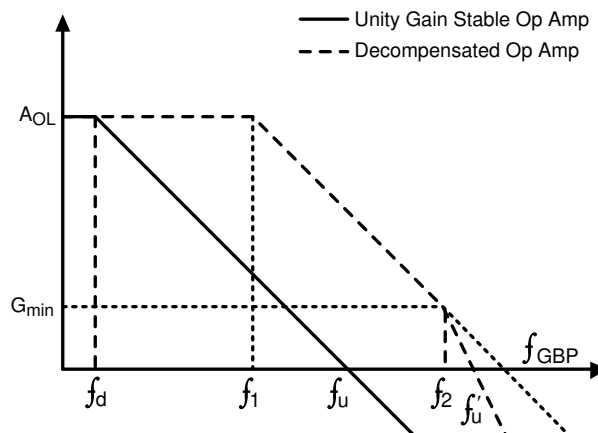

Figure 8-5. Gain vs Frequency Characteristics for a Unity-Gain Stable Op Amp and a Decompensated Op Amp
As shown in Figure 8-5, the dominant pole f_d is moved to the frequency f_1 in the case of a decompensated op amp. The solid A_{OL} plot is the open-loop gain plot of a traditional unity-gain stable op amp. The change in internal compensation in a decompensated amp such as the OPAx607, increase the bandwidth for the same amount of power. That is, the decompensated op amp has an increased bandwidth to power ratio when compared to a unity-gain stable op amp of equivalent architecture. Besides the advantages in the above mentioned parameters, an increased slew rate and a better distortion (HD2 and HD3) value is achieved because of the higher available loop-gain, compared to its unity-gain counterpart. The most important factor to consider is ensuring that the op amp is in a noise gain (NG) greater than G_{min} . A value of NG lower than G_{min} results in instability, as shown in Figure 8-5, because the $1/\beta$ curve intersects the A_{OL} curve at 40 dB/decade. This method of analyzing stability is called the *rate of closure method*. See the precision lab training videos from TI for a better understanding on device stability and for different techniques of ensuring stability.